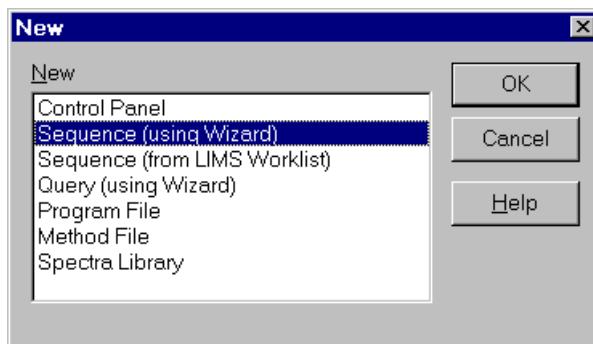

Figure 24. Creating a New Sequence
3. In the Browser, select **File>New** and select **Sequence (using Wizard)** (see Figure 24).